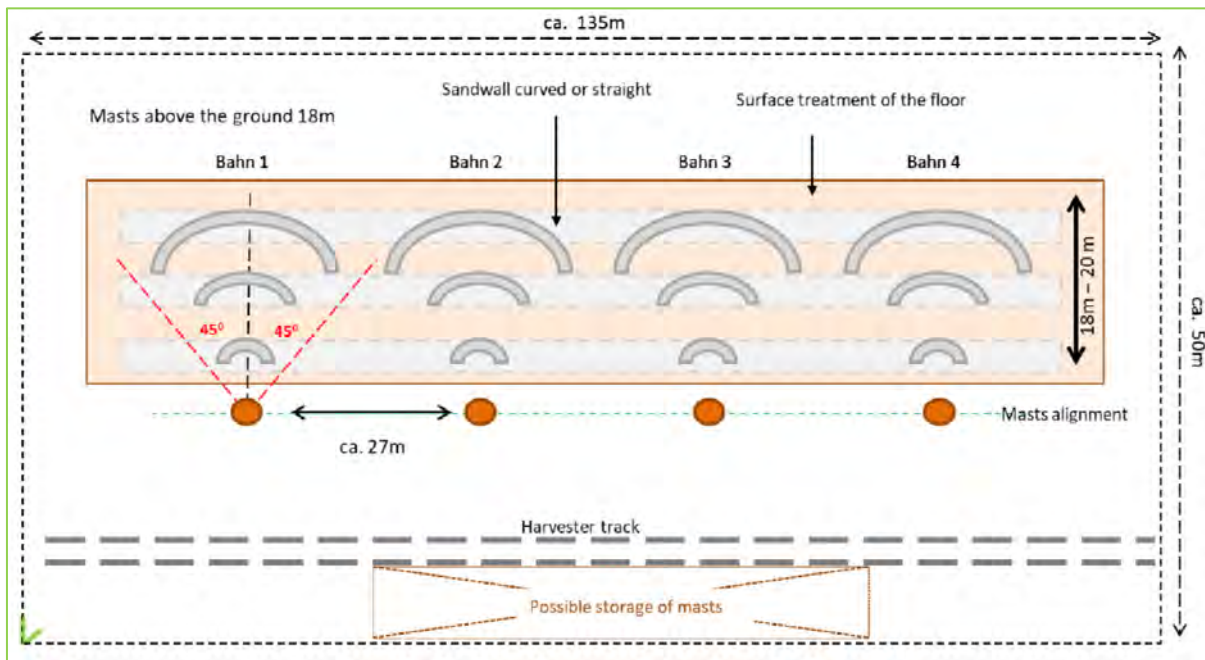

Figure 6: preparation of the area at mast felling
For most felling the competition site can be prepared as shown in Figure 6.
- Determining the exact felling direction by the contestant, marking and setting up posts to ascertain the definite felling direction (see figure 6)